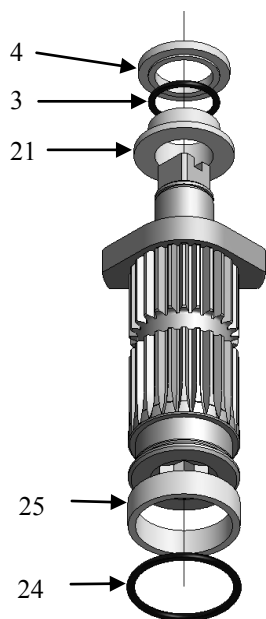

Fig. 8.1
- c. Pinion O-rings: of the remaining O-rings, the largest is installed in the lower pinion O-ring groove (#24 fig. 8.1). The second largest is installed on the top of the pinion (#3 fig. 8.1).
- b. Thrust Bearing (#5 fig. 8.1)